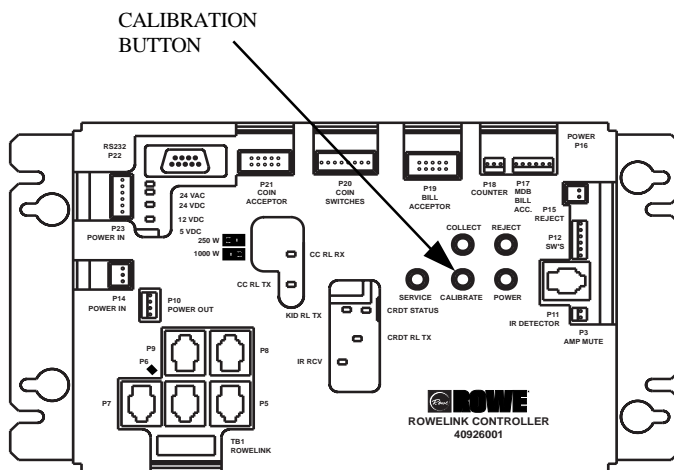
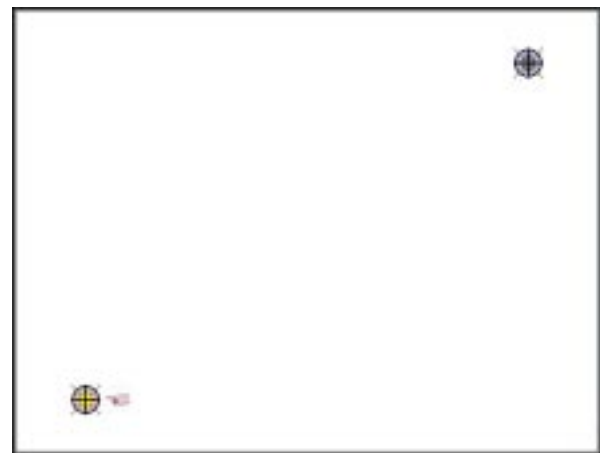

FIGURE 2-3
FIGURE 2-4
1. Press the “Calibration” button on the Rowelink Controller (see figure 2-3). Press the button in once to launch the calibration program. This will override the application while the program runs. See figure 2-4 for a picture of the calibration program interface.